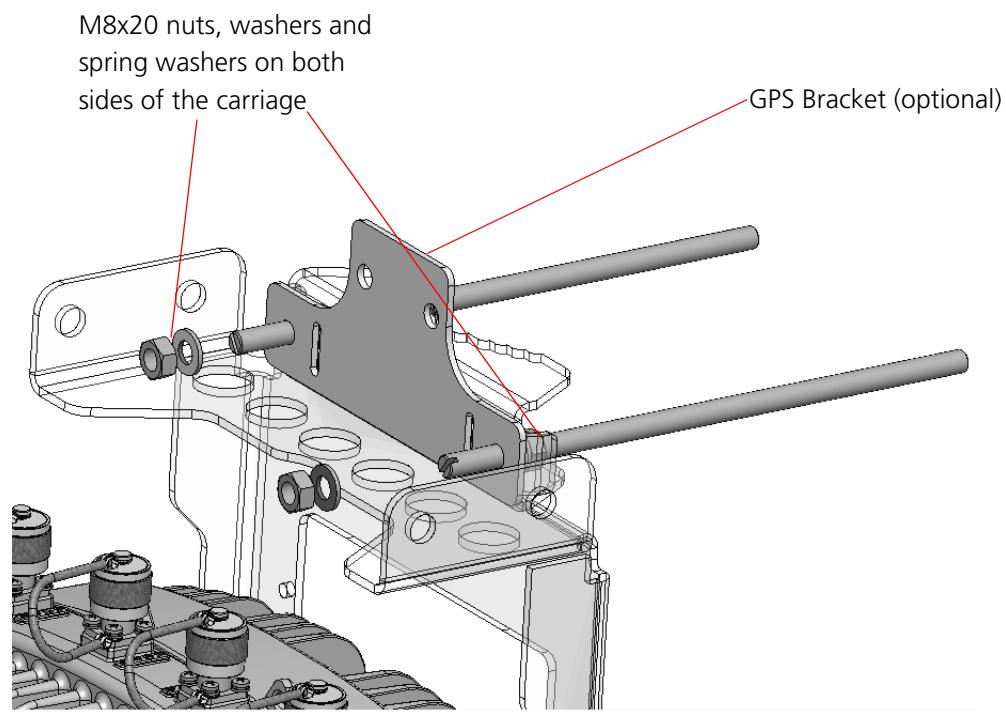

Figure 2-8: Installing the GPS Bracket
- 3** Insert the four threaded rods through the holes in the carriage. If you intend to mount the GPS on the carriage, thread the rods through the GPS bracket as well (Refer to “To install the GPS on the carriage:” on page 48’ and Figure 2-8).